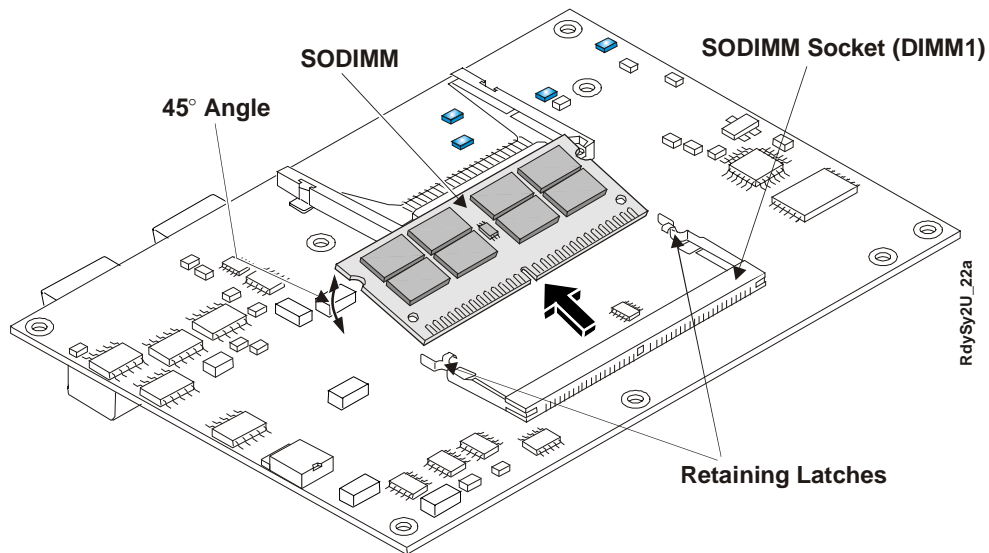

Figure 2-14. Removing SODIMM from Socket
7. Turn over the ReadyBoard model for access to the bottom of the board while laying it on a flat anti-static surface. See Figure 2-14.
8. Locate the SODIMM socket (DIMM1) on the bottom of the ReadyBoard model. See Figure 2-14.
9. Open both retaining latches to release the SODIMM from the socket. See Figure 2-14.
10. Using the card edges, lift the SODIMM completely away from the socket. See Figure 2-14.